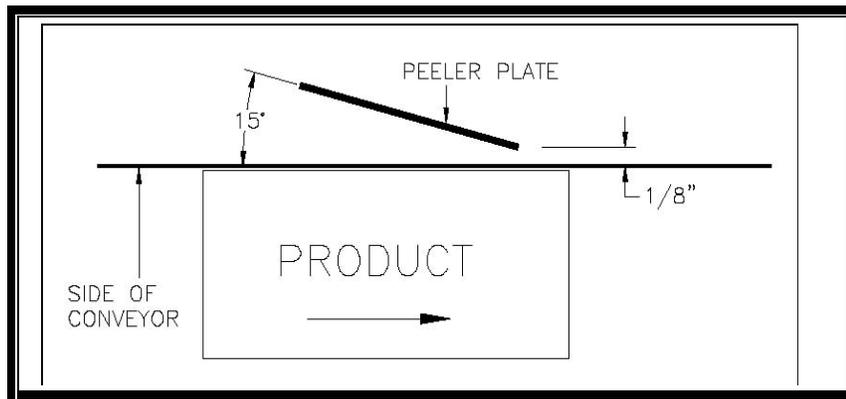

Figure 13 -Peeler Bar Adjustment
2. Loosen the nose assembly height adjustment screws and move the nose assembly up or down to position the peeler plate about 1/8 inch away from the highest point of the product labeling surface. Tighten the nose assembly height adjustment screws. If necessary, use the U-arm to reposition the entire applicator. (See Figure 13).